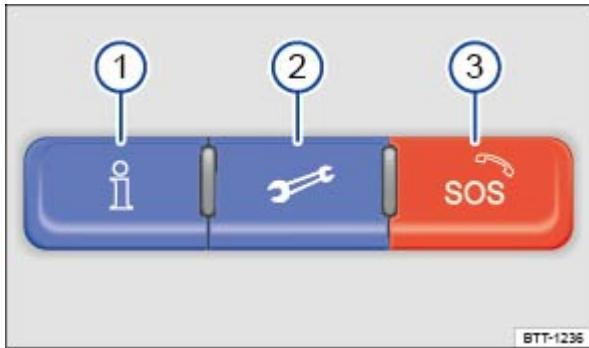

Fig. 155 In the roof console: 3-button module to connect to VW Car-Net Security & Service operators.
You can access VW Car-Net® Security & Service via your VW Car-Net iPhone® or Android® app (text and data rates apply) and the VW Car-Net Security & Service website (<http://www.vw.com/carnet>). If you have a question or would like to subscribe, please either press the  Fig. 155① button in your vehicle or contact the VW Car-Net Security & Service Response Center at 1-877-820-2290. For more information or to log on to your VW Car-Net Security & Service account, visit <http://www.vw.com/carnet>.
The Manual Emergency Call service and all other VW Car-Net® Security & Service features require a trial or paid subscription. To begin your trial or paid subscription, authentication and activation are required. For more information, please visit the website (<http://www.vw.com/carnet>), press the **⇒ Fig. 155①** button in the 3-button module in your vehicle, or contact the VW Car-Net Security & Service Response Center at 1-877-820-2290.
Key to → Fig. 155 :